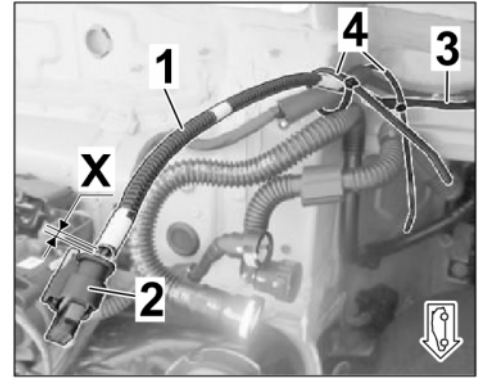

Figure 38
- 3.4.5 Install corrugated hose 4.5 x 7.6 x X to each branch from a distance of approx. 30 mm from the connector (socket housing 4-pin) to the underbody. ⇒ *Figure 38*